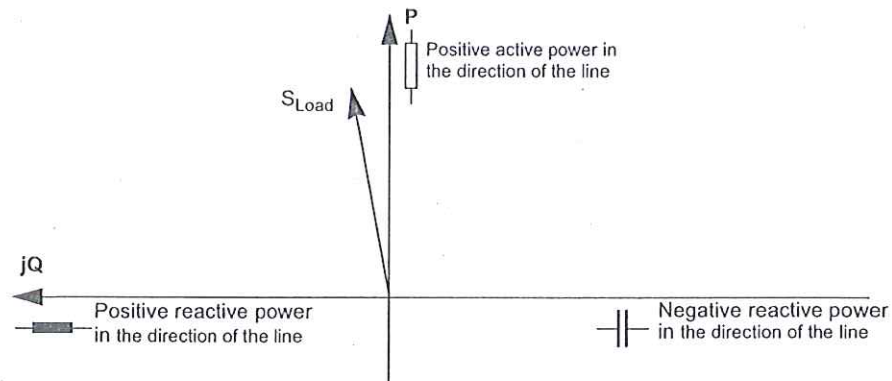

Figure 3-22 Complex (apparent) power
- ☐ With the aid of the measured power values you are able to verify that they correlate to the load direction, reading either at the device itself or in DIGSI® (Figure 3-22).